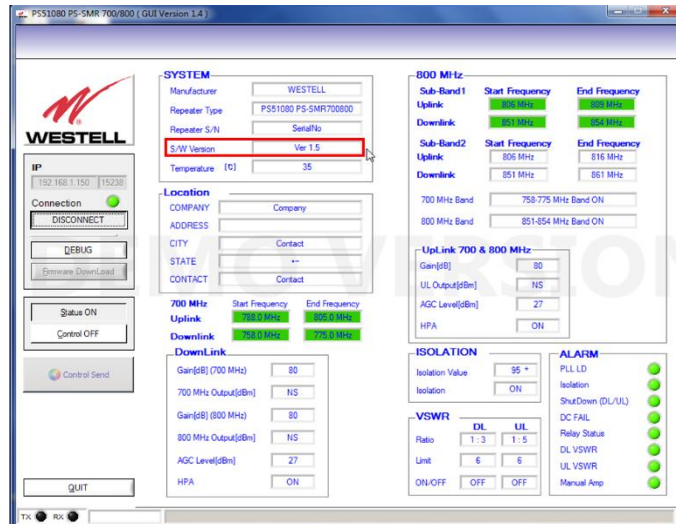

Figure 7-11: Verify New Software Version
11. Verify that the new version of software is indicated in the **System** section of the Control page, Figure 7-11.